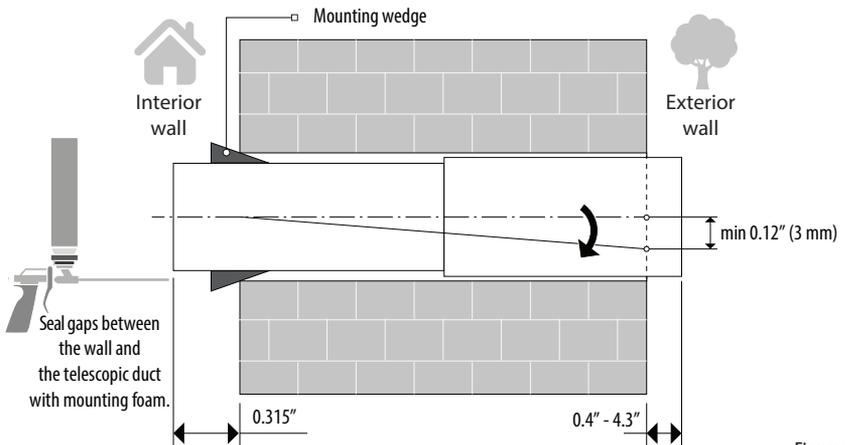

Figure 2
2. Install the telescopic duct inside the wall, using the supplied mounting wedges. Install the air duct with a downward slope of $0.12''$ (3 mm) toward the exterior wall. The air duct must protrude from the distance (0.4" - 4.3") that enables installation of an outer ventilation hood. Seal gaps between the wall and the telescopic duct with mounting foam (Figure 2).